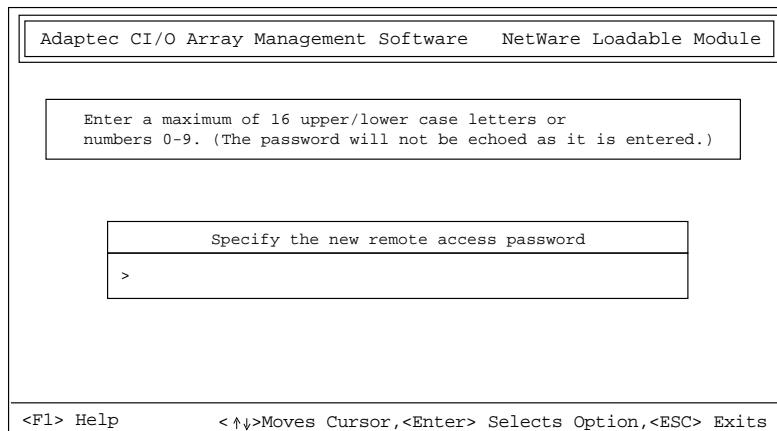

Figure 5-4. Remote Access Password Screen
- 1 Select **Set Remote Access Password** from the Main Menu. The screen shown in Figure 5-4 appears.